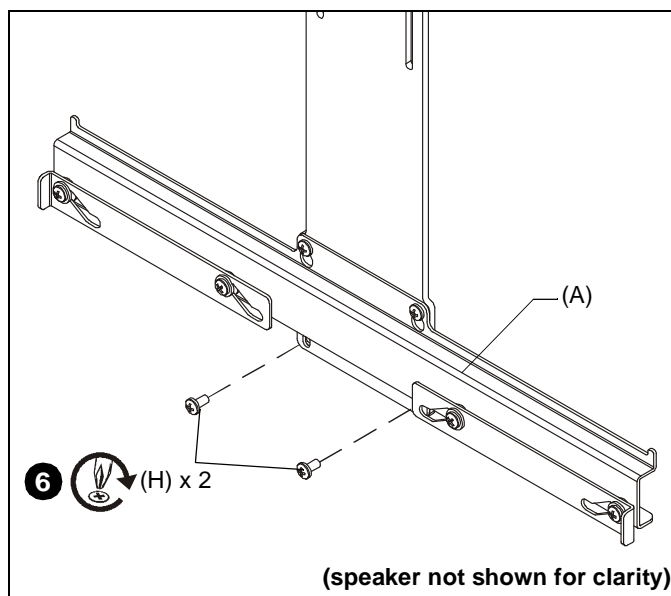

Figure 11
6. Fasten two 10-24 x 3/8" Phillips pan head screws (H) into the lower holes of center assembly (A). (See Figure 11)